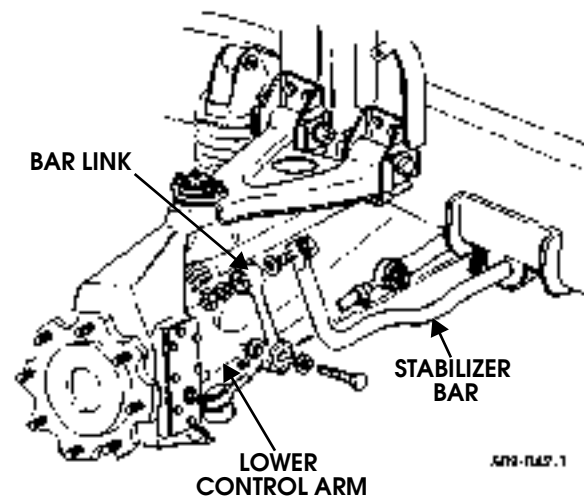

Figure 9-3: Stabilizer Bar Link Replacement
1. Remove locknut and two washers securing bar link to stabilizer bar (Figure 9-3).
1. Apply thread-locking compound to threads of bolt. Install bar link to lower control arm with two washers and bolt. Tighten bolt to 70 lb-ft (95 N•m) (Figure 9-3).